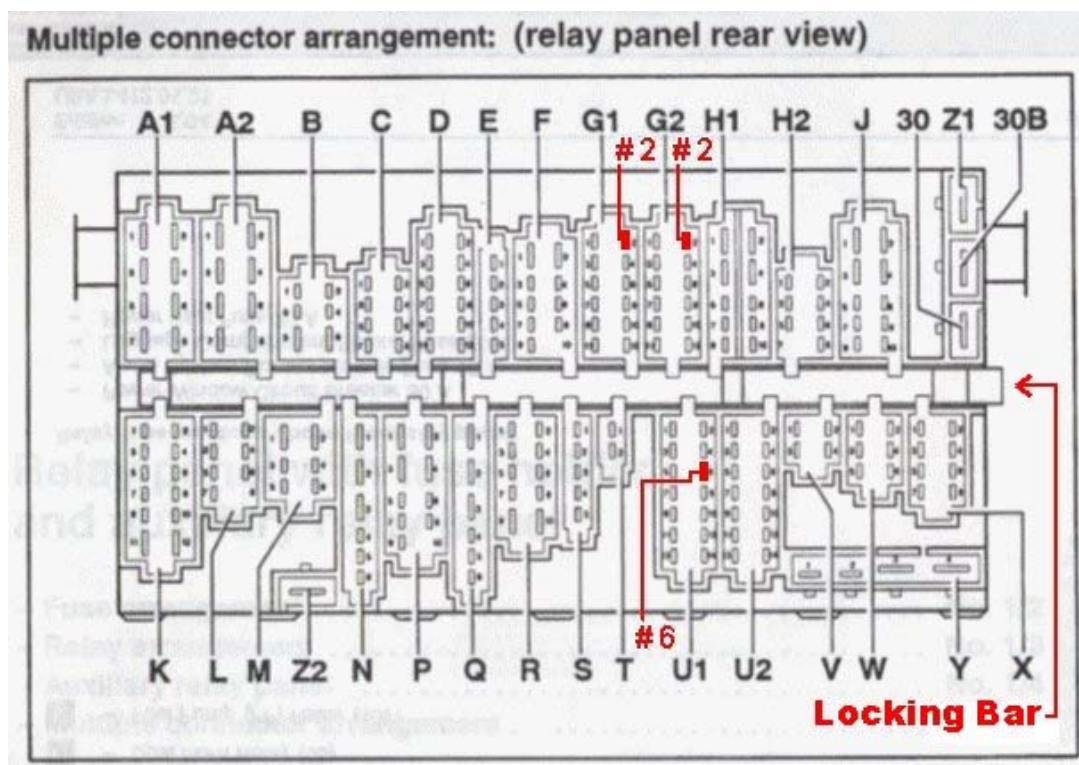

Figure 1
7. Fabricate a 4-wire harness (approximately 32" long) for the MFA controller/wiper switch. Use P/Ns 1HO-953-634, 357-907-968 and (4) 000-979-133 as the connector plugs and terminals/wire. Unsnap, then unhook and rotate the fuse/relay panel down so that the backside is exposed. The panel should now be upside down, oriented as shown in Figure 1.
8. Install MFA controller/wiper and turn signal switches and new harness. The relay panel end of the harness connects to the "V" socket in Figure 1. In the middle of the passenger's side end of the relay/fuse panel there is a rectangular bar, flush with the panel side end (see Figure 1). This bar extends throughout the width of the relay panel and locks all of the connector plugs to the panel at their inner ends. Before installing the "V" plug, pull this bar out (toward the passenger's side) to unlock all connector plugs. Push it back in after installing the "V" plug. The MFA controller's 4-pin connector slides onto the 2 slots under the steering column right next to the turn signal switch connector you slid off previously.
- 2. Wire the tach drive signal.** Locate the white tach signal wire. It runs from the #6 pin of the U1 harness connector on the back of the fuse/relay panel (see Figure 1) to pin #10 of the instrument cluster harness connector. Splice into this wire and run it to the "Sig. In" terminal of the SGI-8 and return it to the splice via the "OUT1" terminal.
1. Locate the sensor input wires. On the back of the fuse/relay panel, locate the brown/white and white/red wires that originate from pins G1/2 and G2/2, respectively (see Figure 1). These wires may either be taped together, bare-ended and unconnected at their other ends or they may have a 2-pin connector plug.